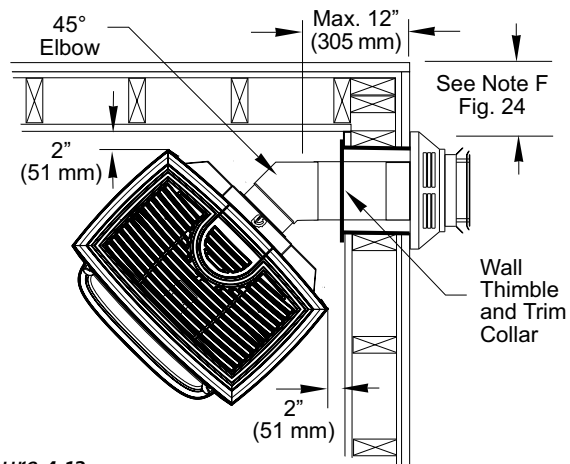

Figure 4.12.
- One 45° Elbow may be used for a corner installation as shown in fig. 4.12.